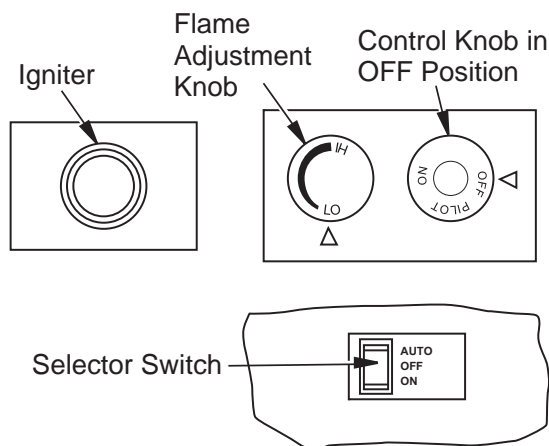

Figure 51 - Control Knob, Igniter Button and AUTO/OFF/ON Switch
4. Press in and turn control knob clockwise to the OFF position (see **Figure 51**).